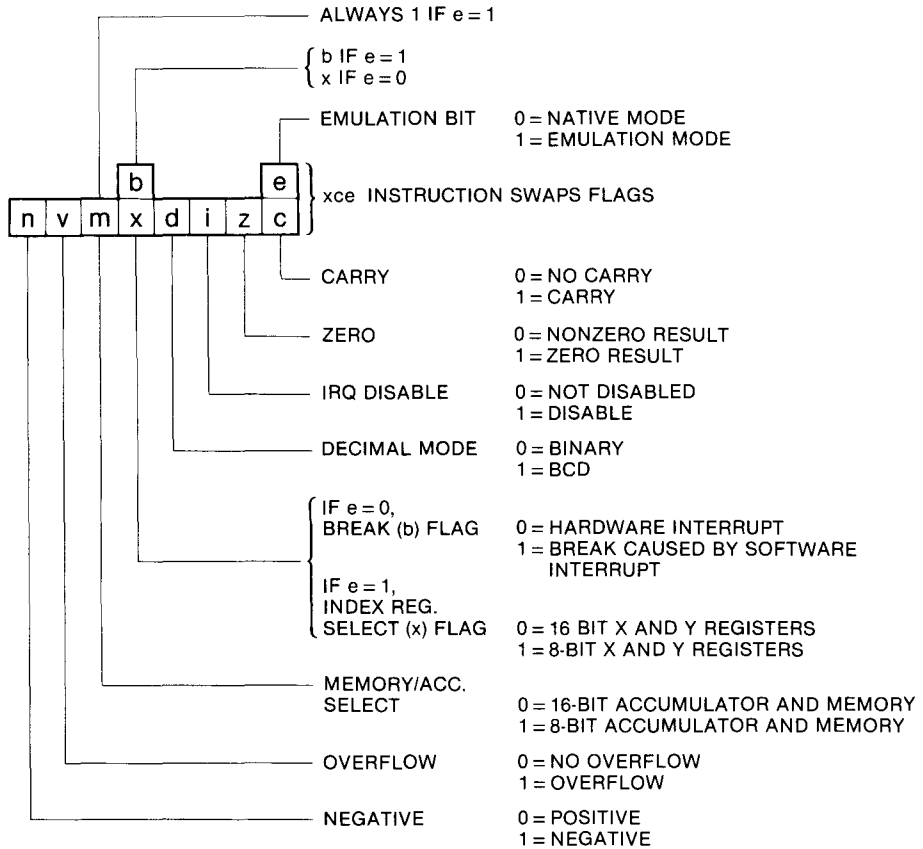

Figure 5-4
The processor status register (P) is built differently from the other registers in the 65C816 and is used differently, too. Unlike the 65C816's other registers, the processor status register isn't designed for storing or processing numbers. Instead, its 8 bits are flags that keep track of several kinds of important information. Figure 5-4 shows the layout of the processor status register.
As illustrated in figure 5-4, the processor status register can be visu-
alized as a rectangular box containing eight square compartments, with a ninth and tenth compartment sitting on top. (More about those later.) Each of the lower compartments in figure 5-4 represents one of the register's 8 bits. If a bit has the binary value 1, it is set. If it has the binary value 0, it is reset, or clear.